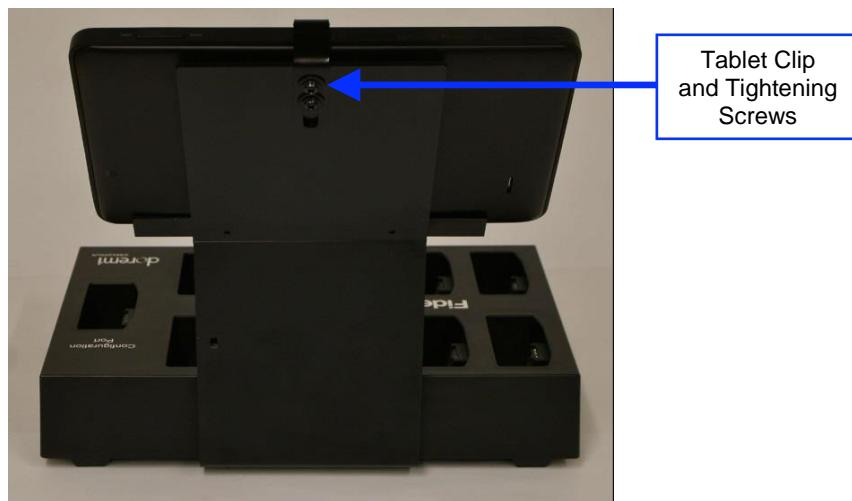

Figure 14: Charging Station Rear View
- Using a Phillips screwdriver, carefully secure the tablet mounting bracket to the charging/configuration base using the (4) - M3x6 Black Flat Head Machine Screws provided.
- Loosen the tablet clip screws (Figure 14).